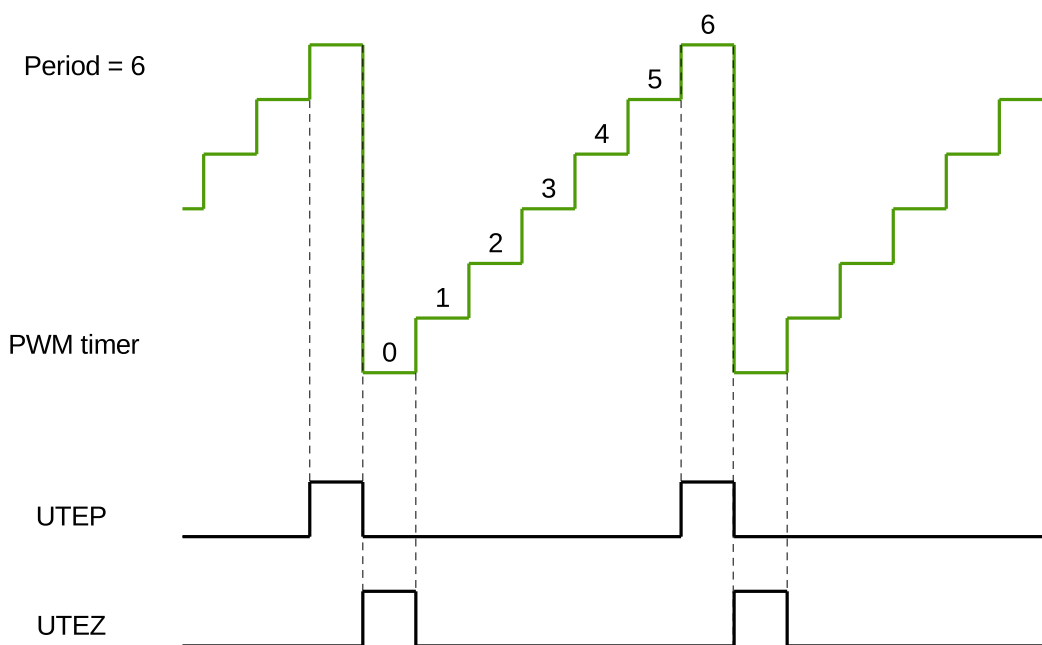

Figure 36-11. UTEP and UTEZ Generation in Count-Up Mode
Figures 36-11 to 36-13 show the timing waveforms of U/DTEP and U/DTEZ.
1. UTEP and UTEZ do not happen simultaneously. When the PWM timer is in count-up mode, UTEP will always happen one cycle earlier than UTEZ, as demonstrated in Figure 36-11, so their action on PWM signals will not interrupt each other. When the PWM timer is in count-up-down mode, UTEP will not occur.